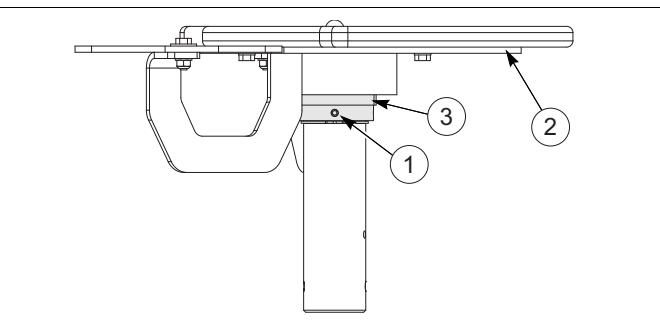
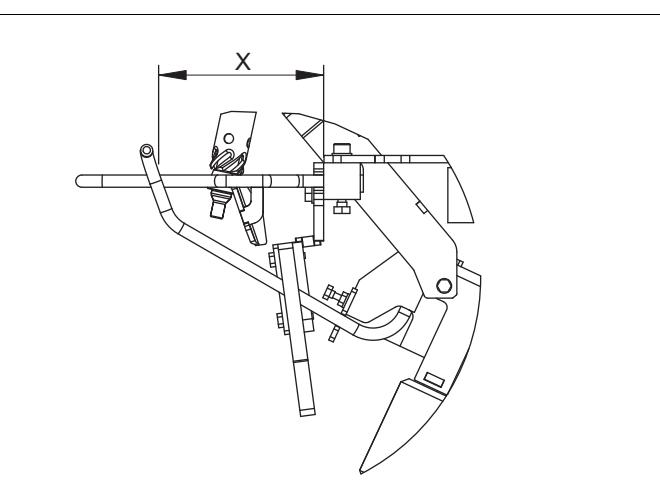

fig. 47 Setting the hip lifters height
fig. 48 Distance measures for the height adjustment
6. Tighten socket-head screws **1** (2x). See fig. 47, fig. 48 and tab. 12.